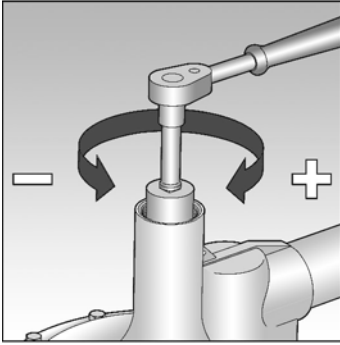

Fig. 11
3. Fully unscrew and remove the adjustment screw, See Fig. 11.